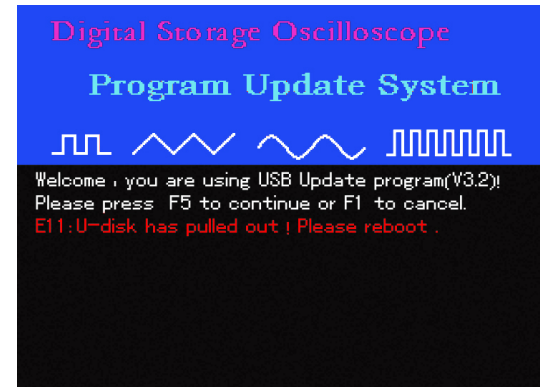

Figure 5-7
2.If the USB device is removed after [F5] is pressed to continue program upgrade, the prompt in Figure 5-7 will appear : “E11 : U-disk has pulled out! Please reboot.”